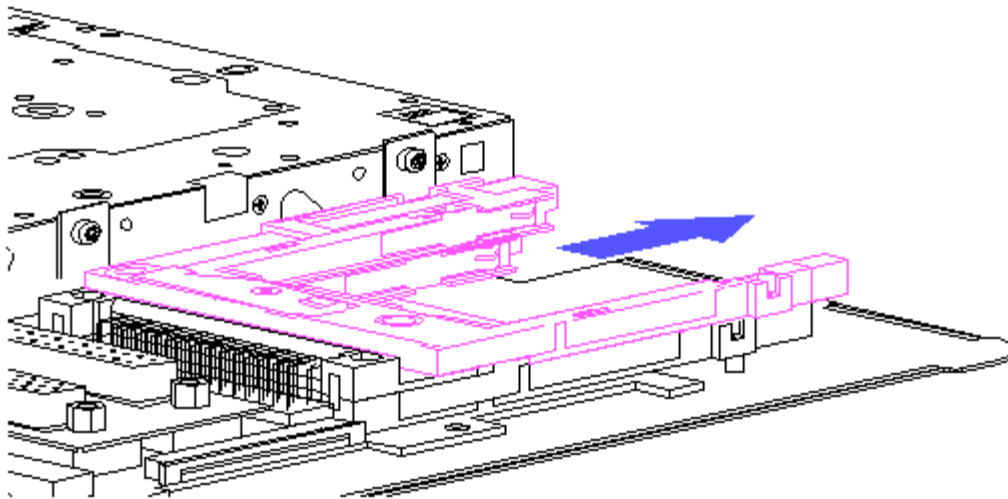

Figure 3-61. Removing the PCMCIA Ejector Rail
5. Slide the ejector rail out (Figure 3-61).